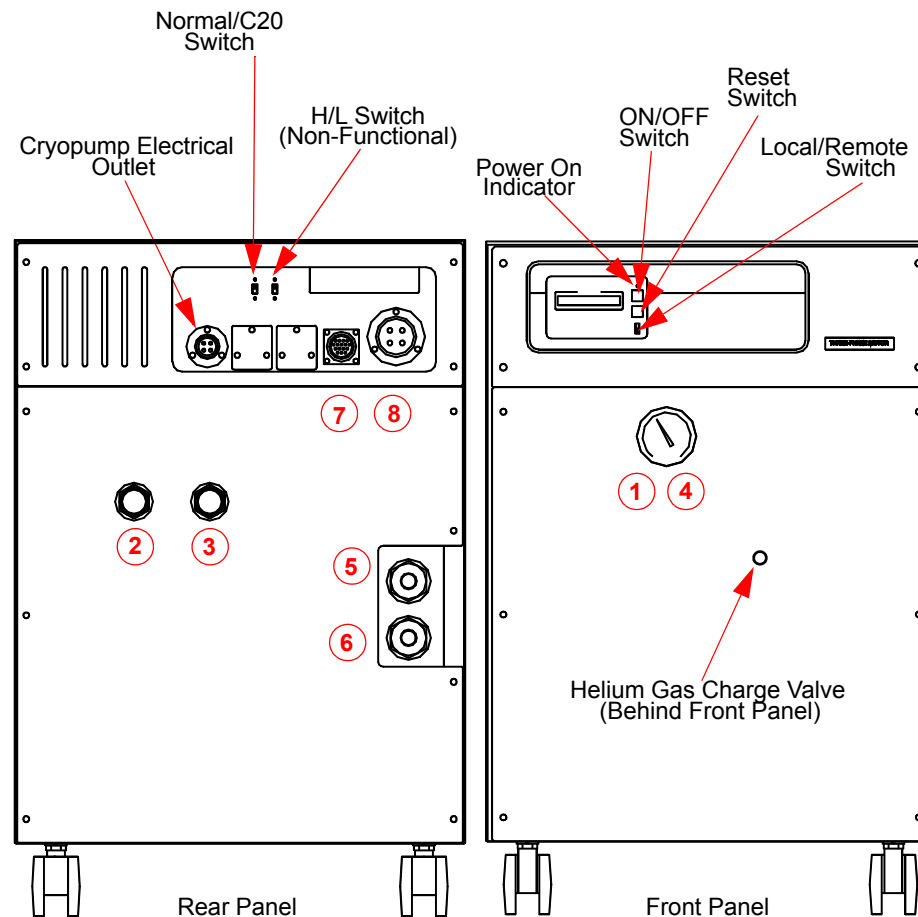

Figure 1: On-Board /S 1000 Compressor Installation Points
4. Read the Compressor helium pressure gauge located on the Compressor rear panel (see *Figure 1*). Compare the gauge reading to the appropriate 50/60 Hz line frequency value (depending upon your system installation).